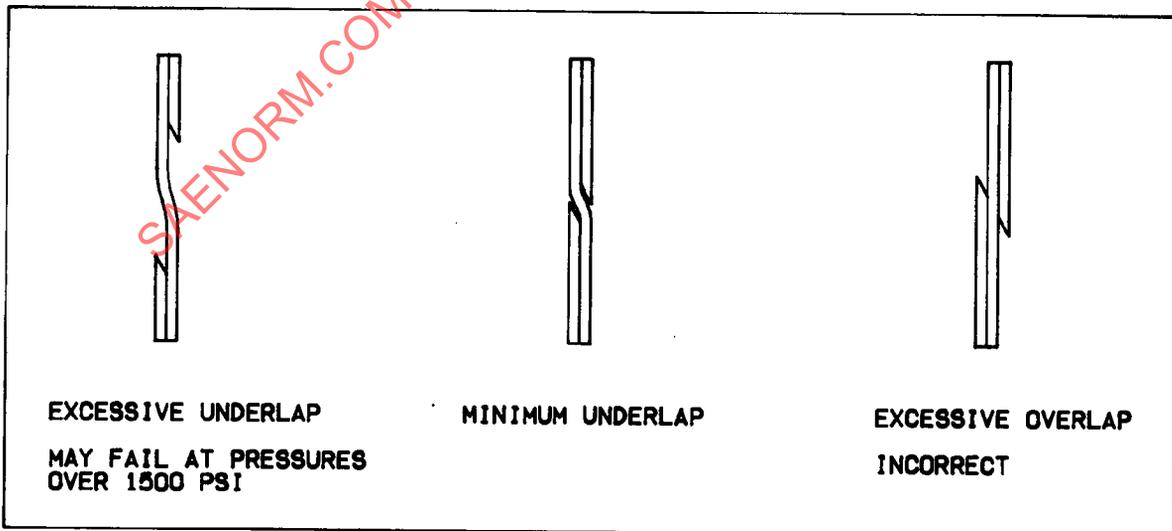

FIGURE 8
6.2.2 Spiral backup rings can be used in the field on non-standard diameters. Spiral backup rings are readily sized on installation by clipping the ends to correct for overlap. Therefore an oversized ring can be "fitted" when the exact diameter ring, to match the gland, is not available. Spacing of the end should be controlled to minimize the gap. Minimum underlap shown in Figure 8 is required above 1500 psi.